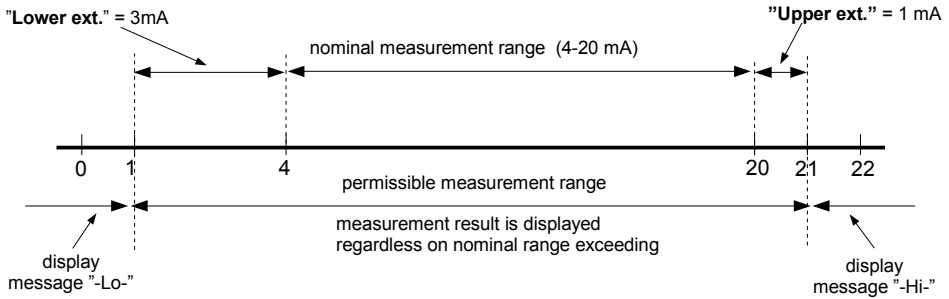

Fig. 7.14. Defining permissible measurement range for an example of settings of "Upper ext." and "Lower ext." parameters (for nominal measurement range 4-20 mA)
**"Upper ext."** - parameter defining the allowable range of input currents (Fig. 7.14).